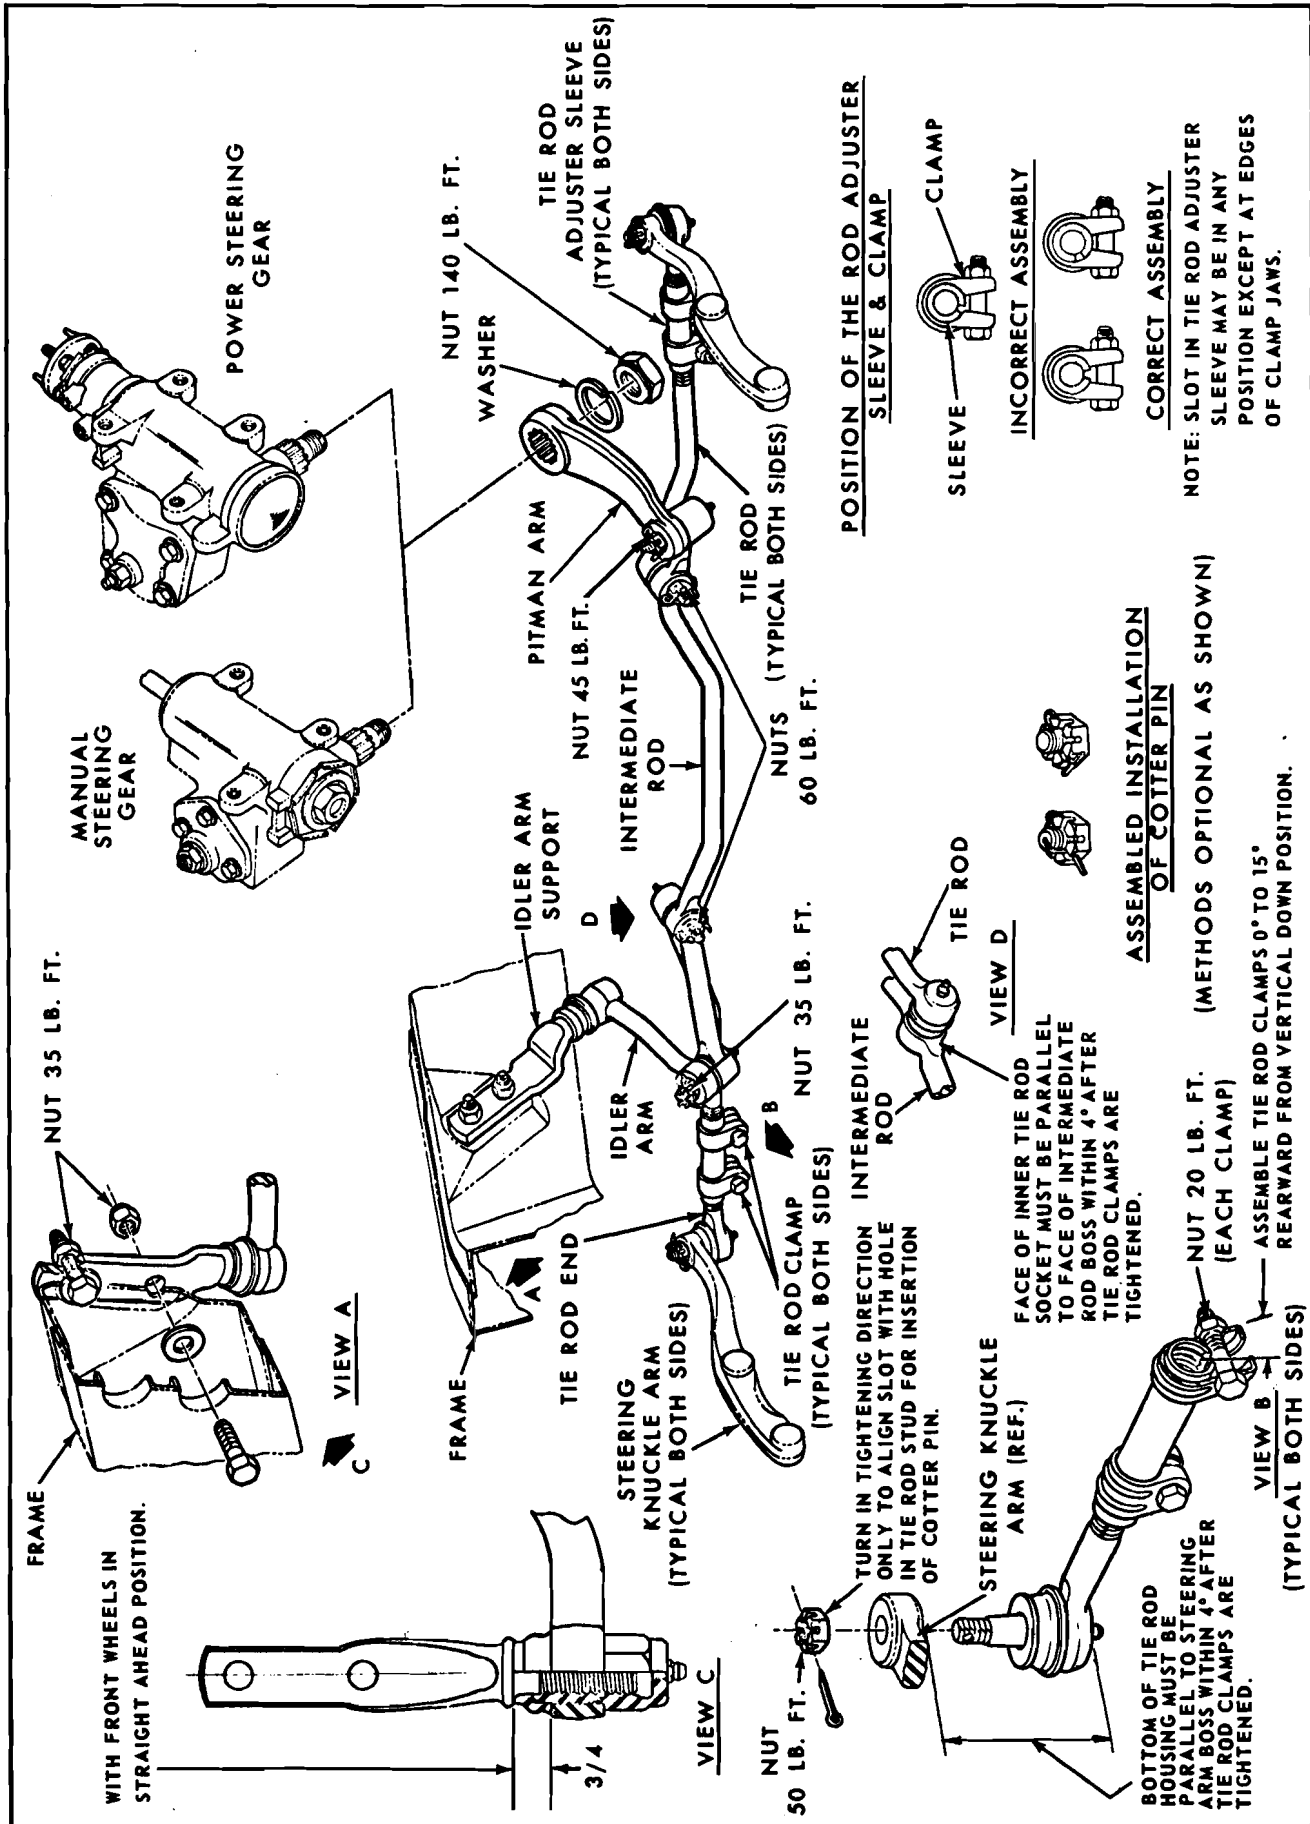
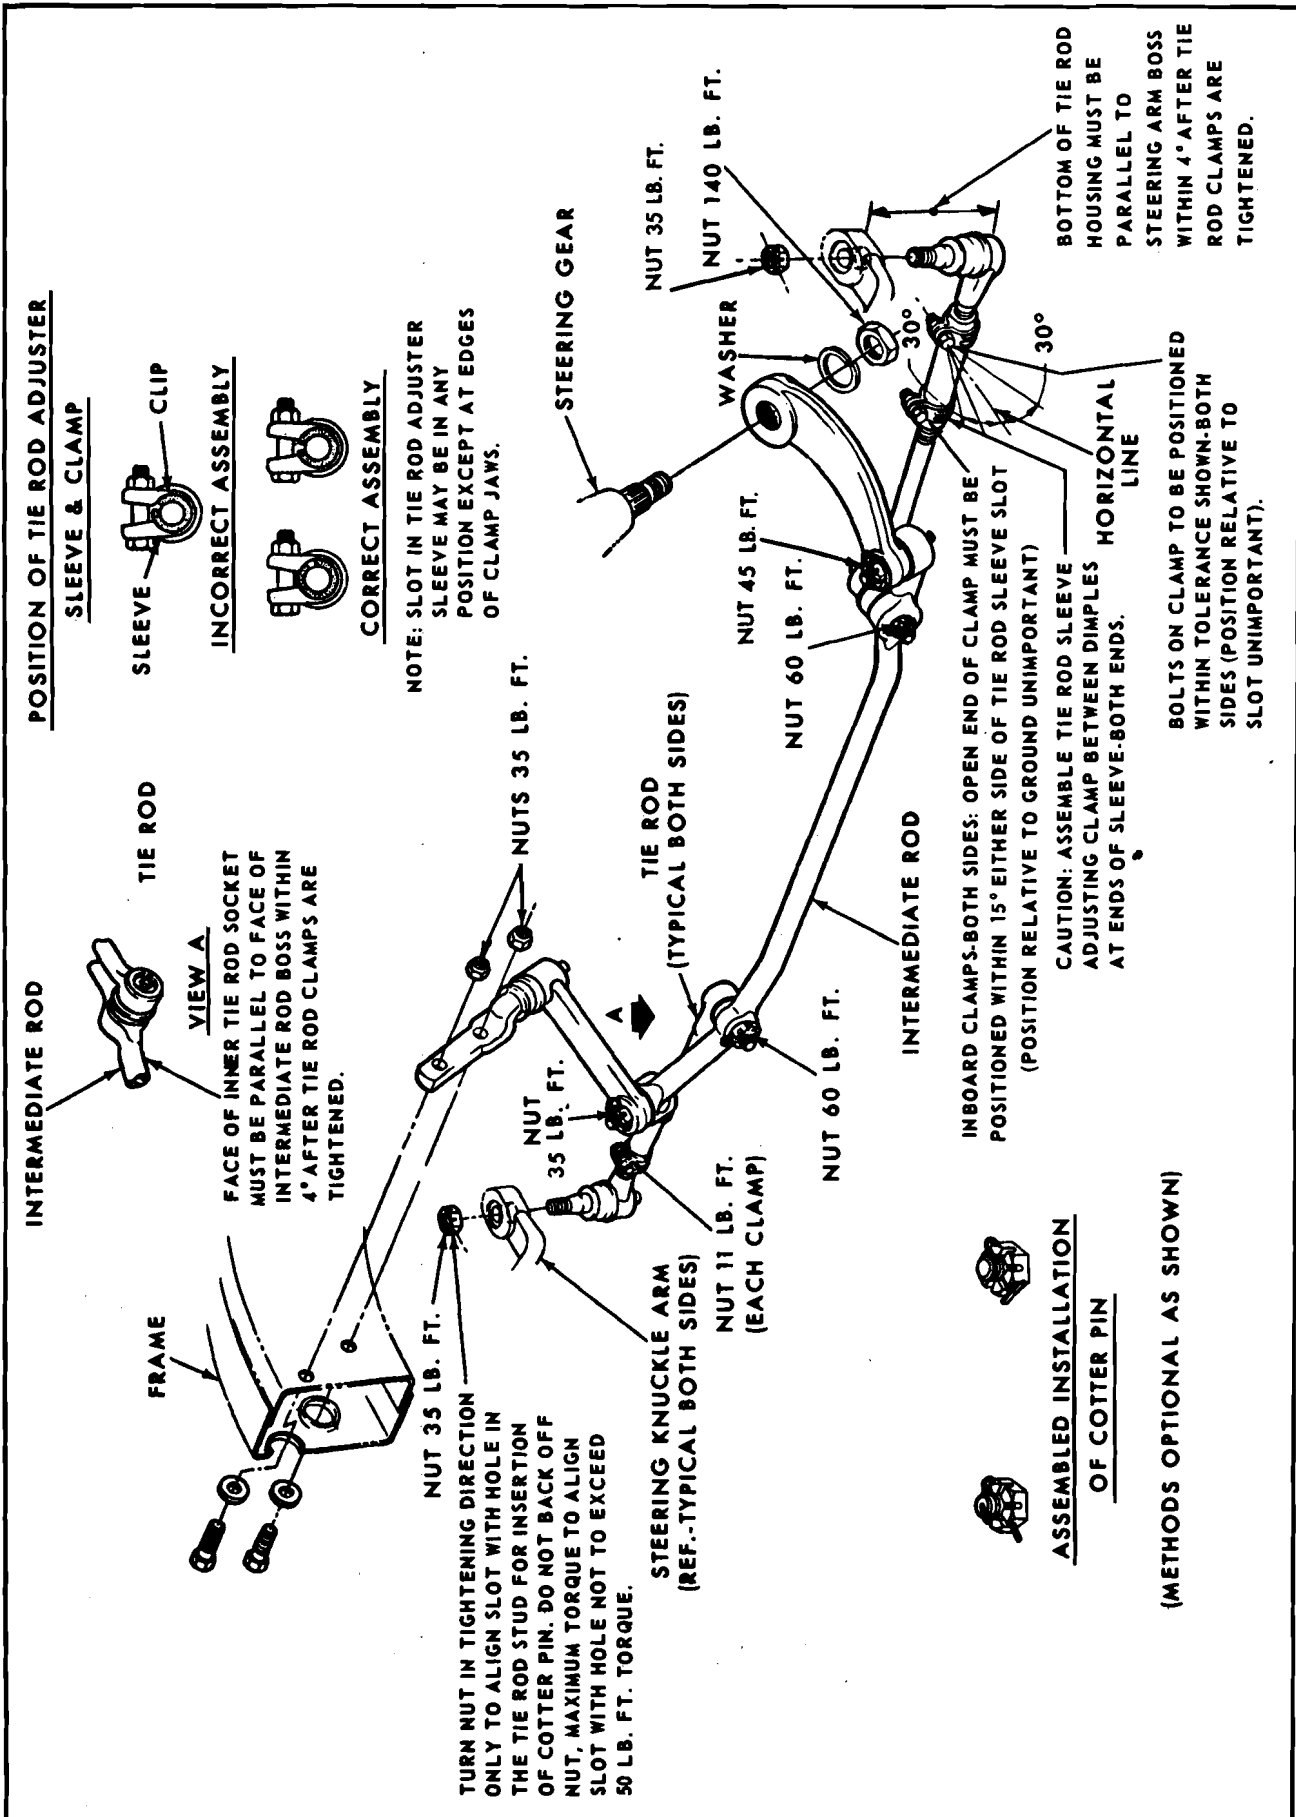

Fig. 9-43 Pontiac Steering Linkage
Fig. 9-45 Firebird Steering Linkage
1. Steering intermediate rod may be removed from both the tie rods, pitman arm and idler arm by removing the ball shaft nut (Fig. 9-43, 9-44 and 9-45).
5. When new tie rods or tie rod ends are installed, it is necessary to check toe-in. Check clamp bolts on tie rod adjuster sleeve assembly for tightness, 17 lb. ft. torque. Assemble tie rod clamps as shown in Fig. 9-43 for Pontiac, Fig. 9-44 for Tempest and Grand Prix, and Fig. 9-45 for Firebird models.
1. Raise car and disconnect steering intermediate rod from pitman arm (Fig. 9-43, Fig. 9-44 and Fig. 9-45), using tool J 5504-1.